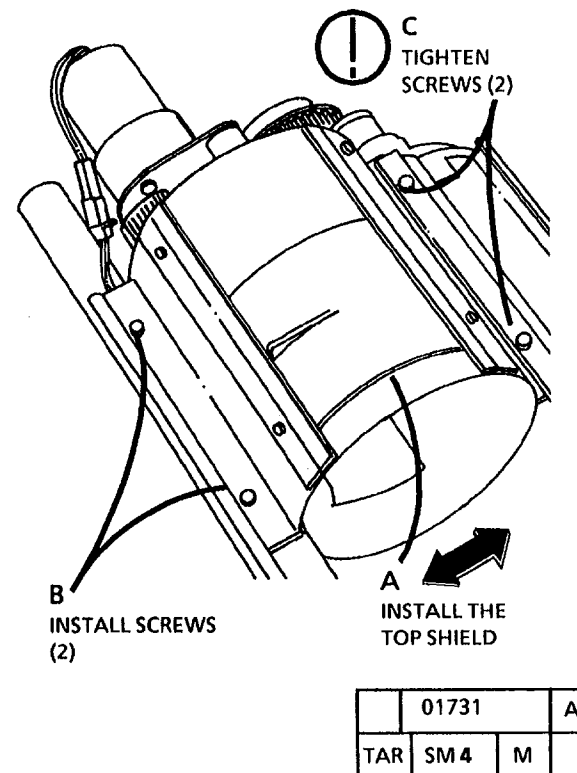

Figure 5. Reinstall the Top Shield
4. (Figure 5): Reinstall the Top Shield.